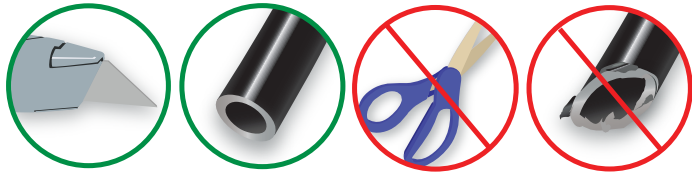

fig. 27
1. Cut the air line in half. Make clean, square cuts with a razor blade or hose cutter (Fig. 27). Do not use scissors or wire cutters.